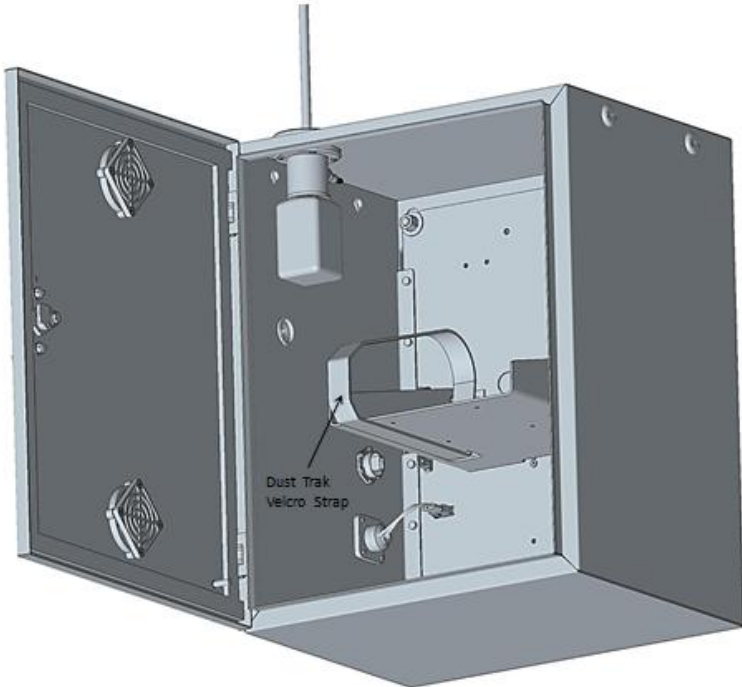

Figure 10: DustTrak Aerosol Monitor Velcro® Straps
1. A Velcro® strap is provided to secure the DustTrak monitor to the Enclosure. Make sure the Velcro® straps are present in the Enclosure bracket as shown in Figure 10.